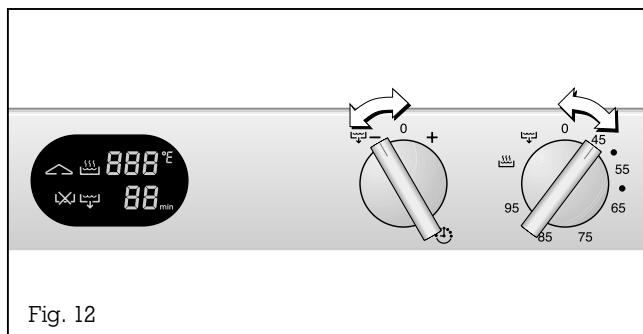

Fig. 12
- Turn the “Temperature” control knob to the 0 position. The “child lock” symbol on the display goes off (Fig. 12).